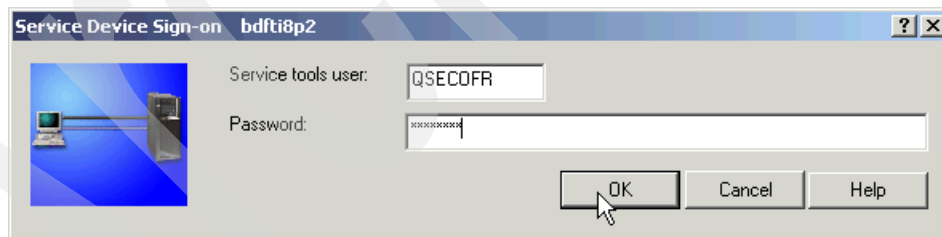

Figure 17-9 SST Sign-on
- The system prompts you to sign on to SST, as shown in Figure 17-9. Enter your Service tools ID and password and press **OK**.